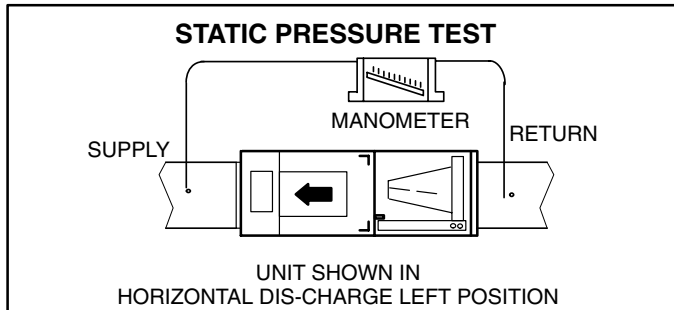

FIGURE 25
- 1- Measure tap locations as shown in figure 25.